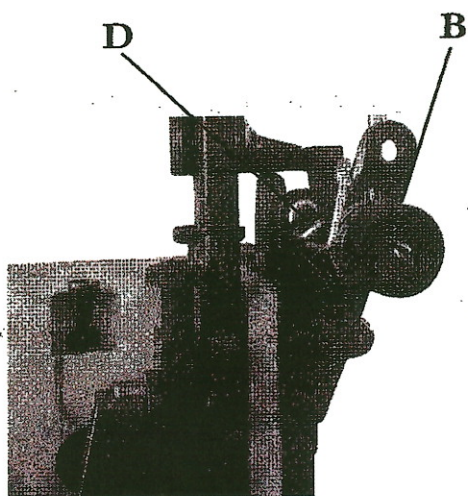

Fig.2
- From the right through the thread guide D of the upper hole, as show in Fig. 2.
- Clockwise around and between the tension disk of the control button B, as show in Fig. 2.